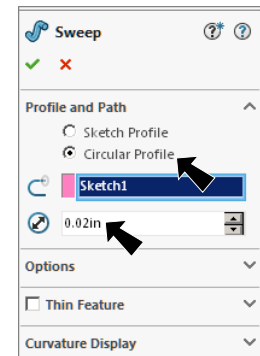

Fig. 6
- under Profile and Path, **Fig. 6**